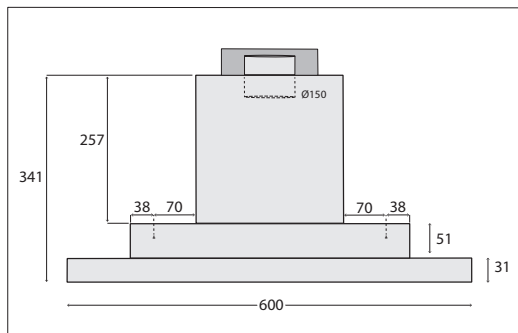

Fig. 7
6. After the hood has been hung, install the flexible outlet duct to the outlet opening (Fig. 7). Use a reducer fitting 150/120 mm in diameter, if required. Insert the second part of the flexible duct in the opening prepared in the wall.